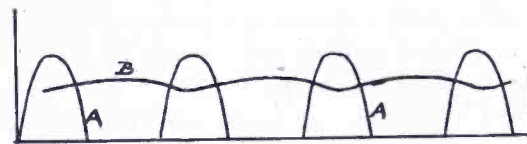

Fig. 2. Effect of Inductance. "A" is r.a.c. curve; "B" the inductance curve
**T**HE inductance coil stores up energy in electromagnetic form which by the property of self induction fills in the gaps between bumps of a rectified a.c. curve. (Fig. 2.) As can be seen, using inductance alone, the effective voltage is cut down considerably but we have less strain on the tubes when a more uniform voltage is applied. To get enough energy stored in electro-magnetic form, a large value of inductance is necessary, at least 10 henrys.